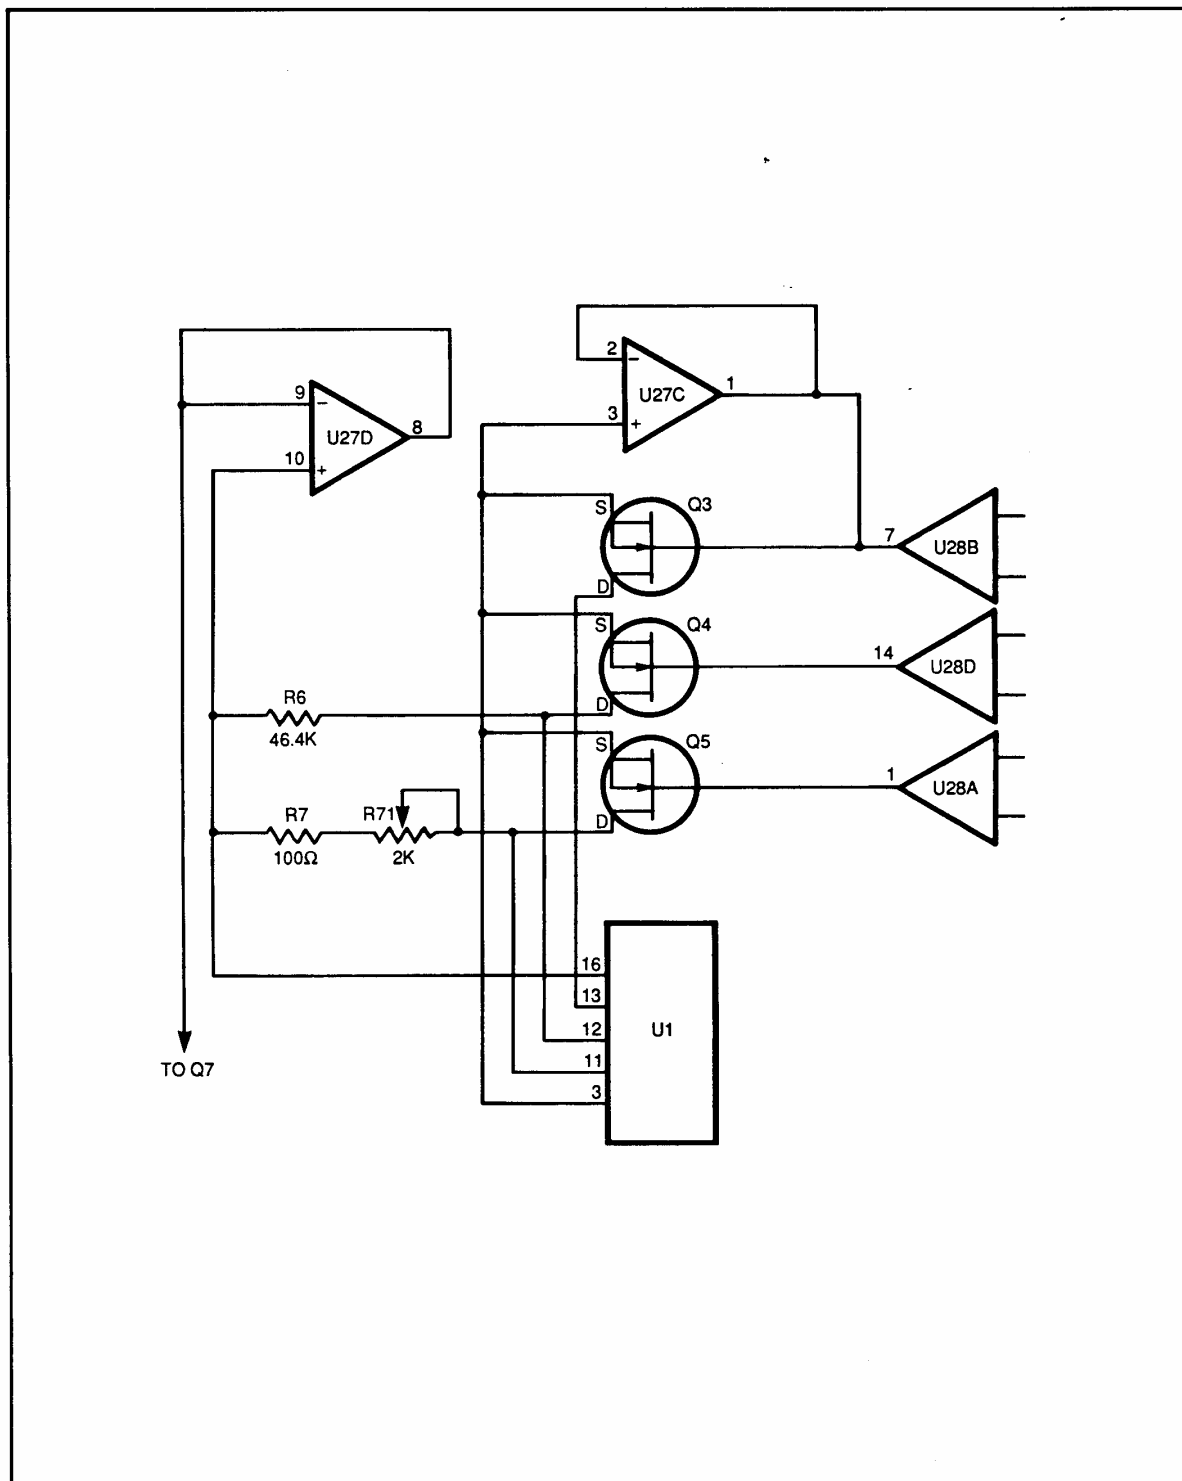

Figure 8-29. Instrumentation Amplifier, 1st stage
- c. Instrumentation Amplifier. The multiplexed channel signal is applied to the differential inputs of U1, an instrumentation amplifier. U1 is also a programmable gain amplifier that can be switched between 4 decade gains: unity, x10, x100, and x1000. VMOS FETs Q3, Q4, and Q5 (Figure 8-29), the switching elements that set the gain of U1, are driven by three sections of the quad operational amplifier, U28. The gain is selected as follows: